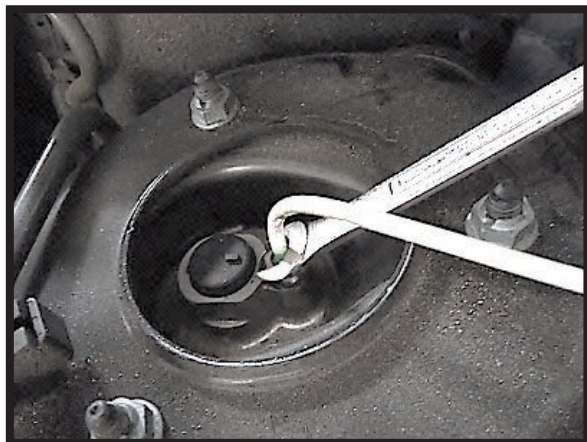

FIGURE 10-3
3. REMOVE AIRLINE AND THREE (3) UPPER MOUNT NUTS. (FIGURES 10-3, 10-4)